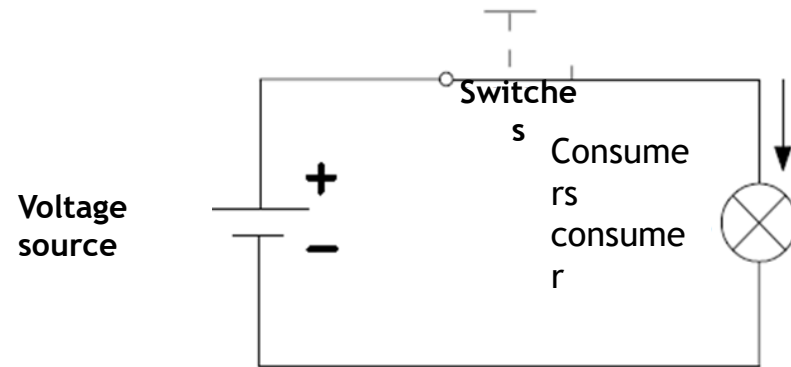

Fig. 1.11: Closed circuit
2. the circuit is closed (Fig. 1.11).